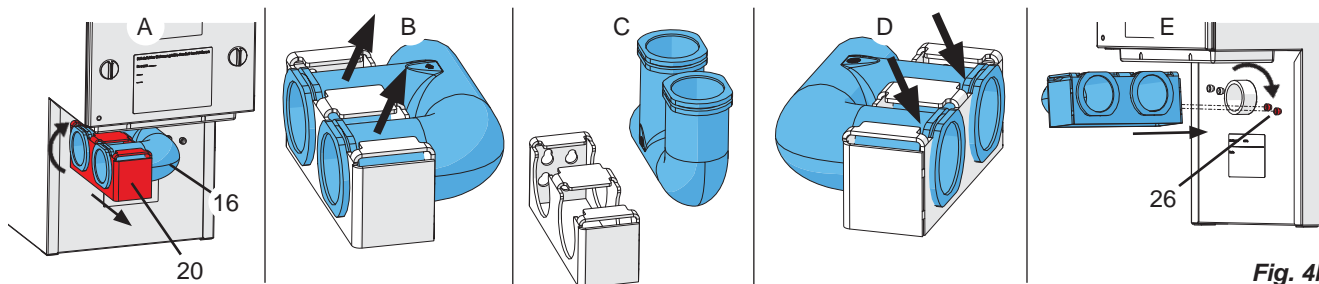

Fig. 4b
- extractor and hang the holder (20) onto the holder screws (26, fig. 4b).